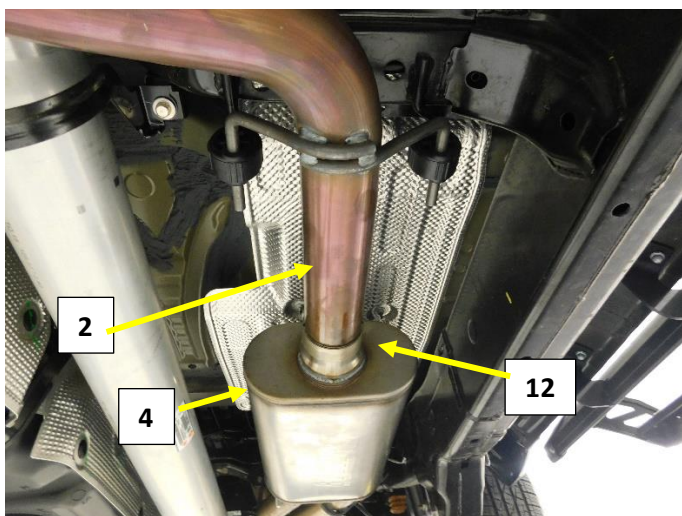

Figure.7
5. Install a 3" band clamp (12) on to the inlet of the 72688-Z muffler (4). **Fig. 7**
6. Install the muffler (4) on to the muffler inlet pipe (2), align the muffler with the logo down and muffler case level. Tighten the clamp. **Fig. 7** **Note: Use extension pipe 26984S (3) between Muffler and inlet pipe for 145.1" wheel base**